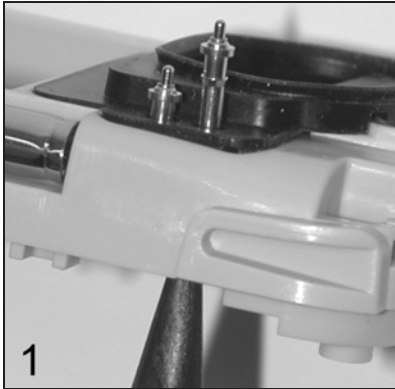

Figure 7-26.
1. Remove back acoustic seal and charger contact pins from high audio seal assembly. (See Figure 7-26.)